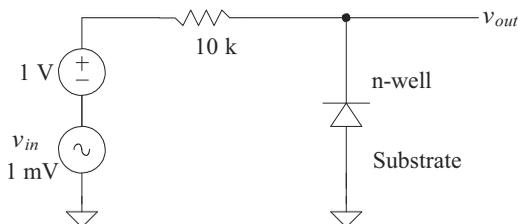

Figure 2.29 Treating the diode as a capacitor. See Problem 2.7.
- 2.7** Using the diode of Ex. 2.3 in the circuit of Fig. 2.29, estimate the frequency of the input signal when the AC component of v_{out} is 707 μ V (i.e., estimate the 3 dB frequency of the $|v_{out}/v_{in}|$).